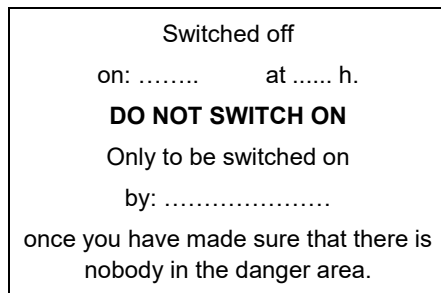

Fig. 3
4. If it is possible to secure a switch with a padlock, erect a sign accordingly Fig. 3.